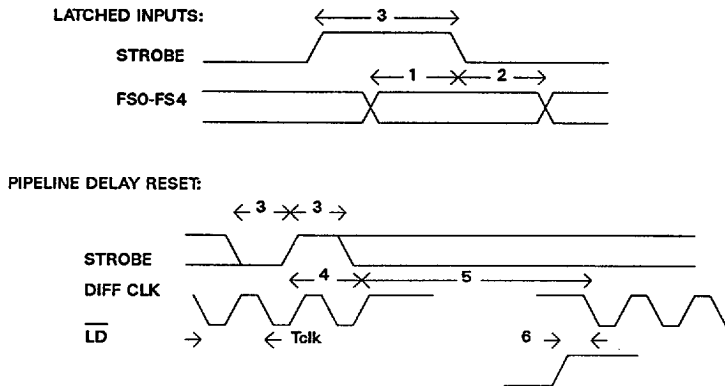

Figure 4
See Figure 4 for a diagram of the clock sequencing.
10. See Figure 4.